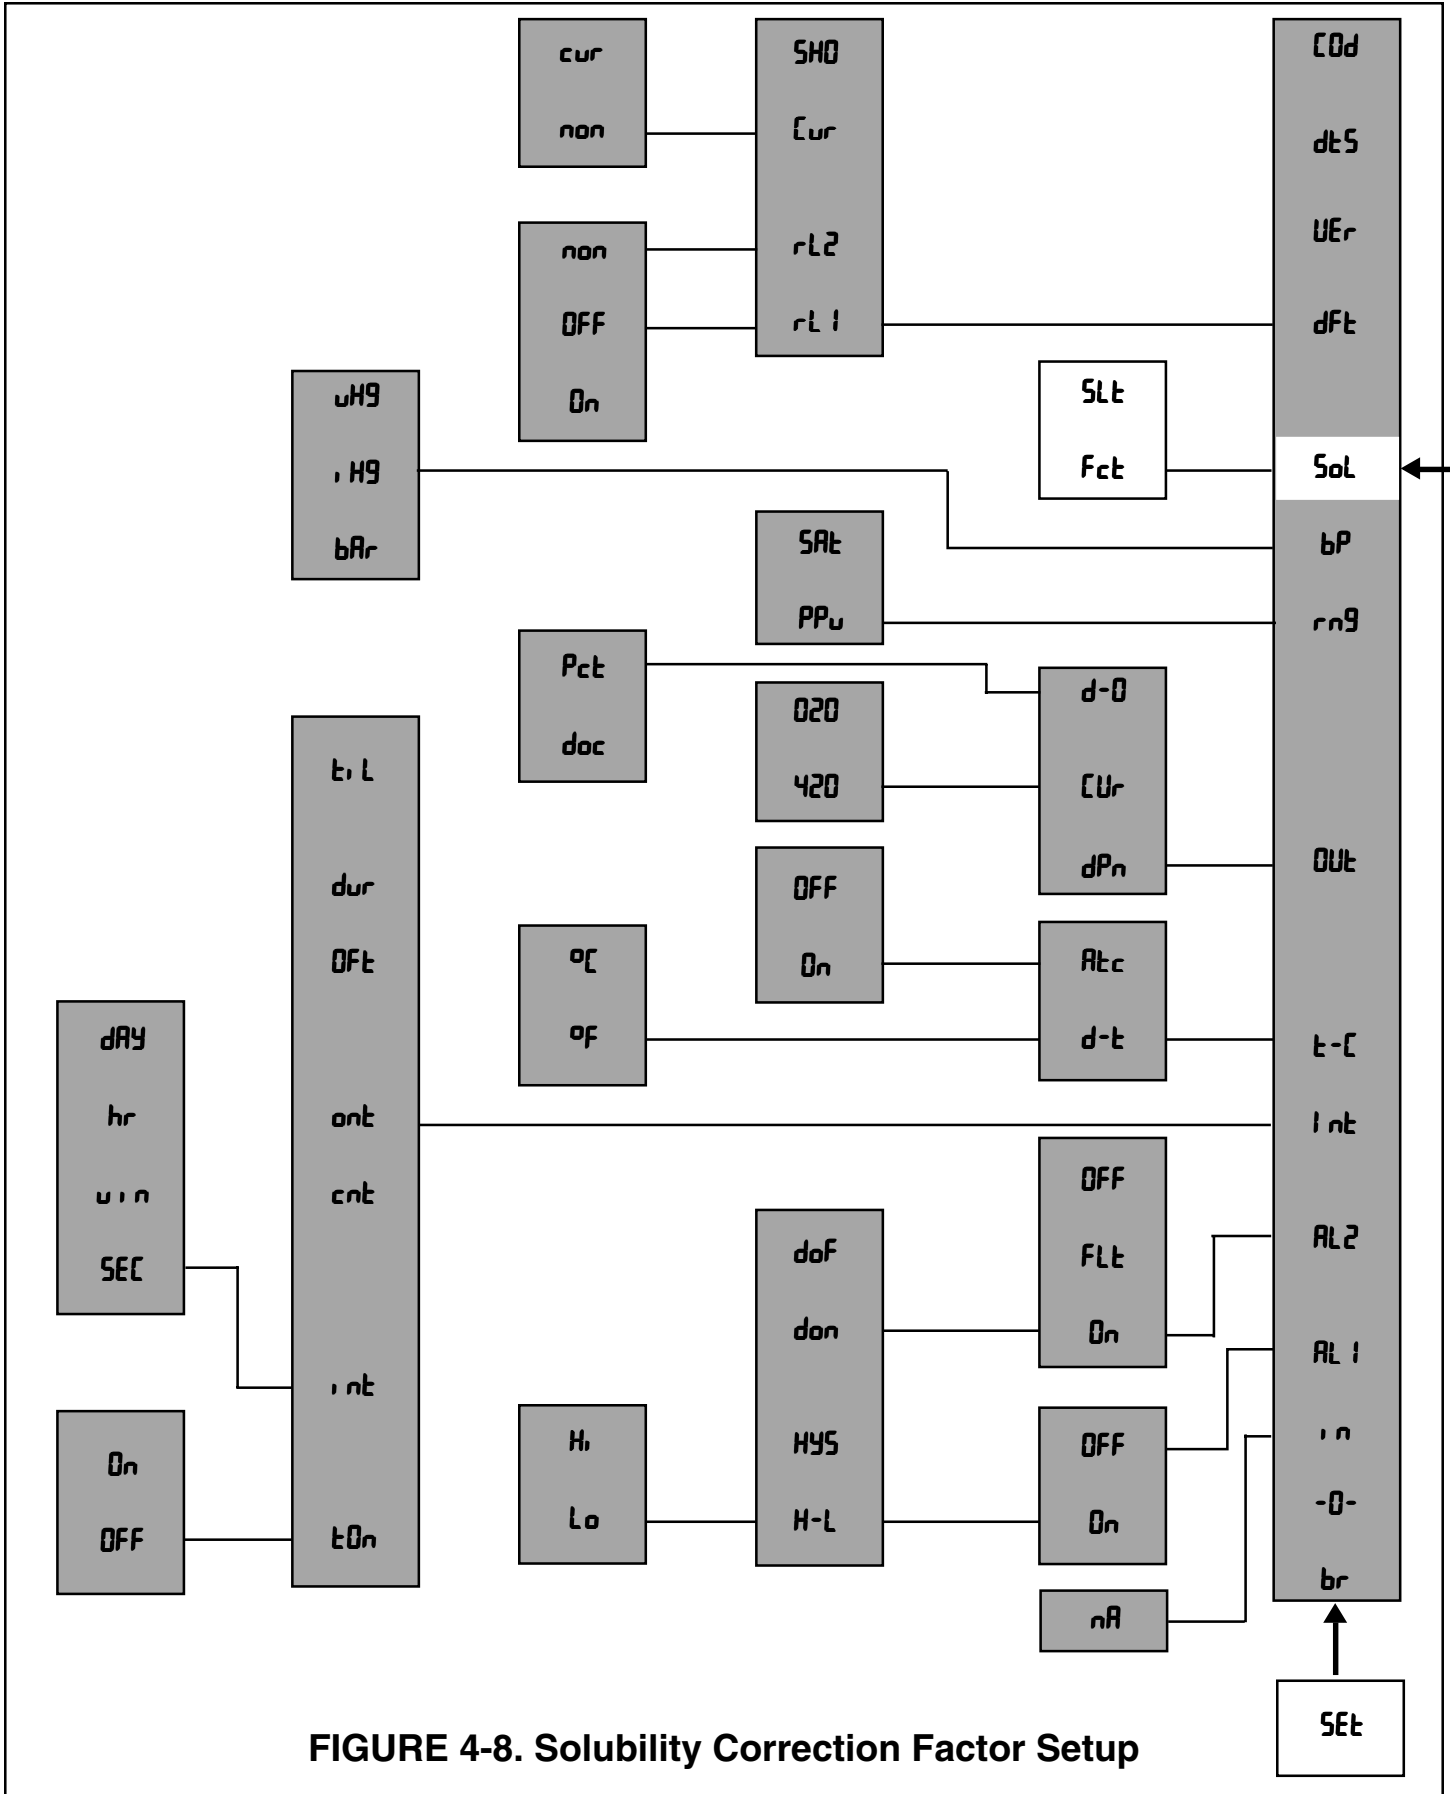

FIGURE 4-8. Solubility Correction Factor Setup
4.8.1 Solubility Correction Factor Set Up “Sol”. Refer to Figure 4-8.